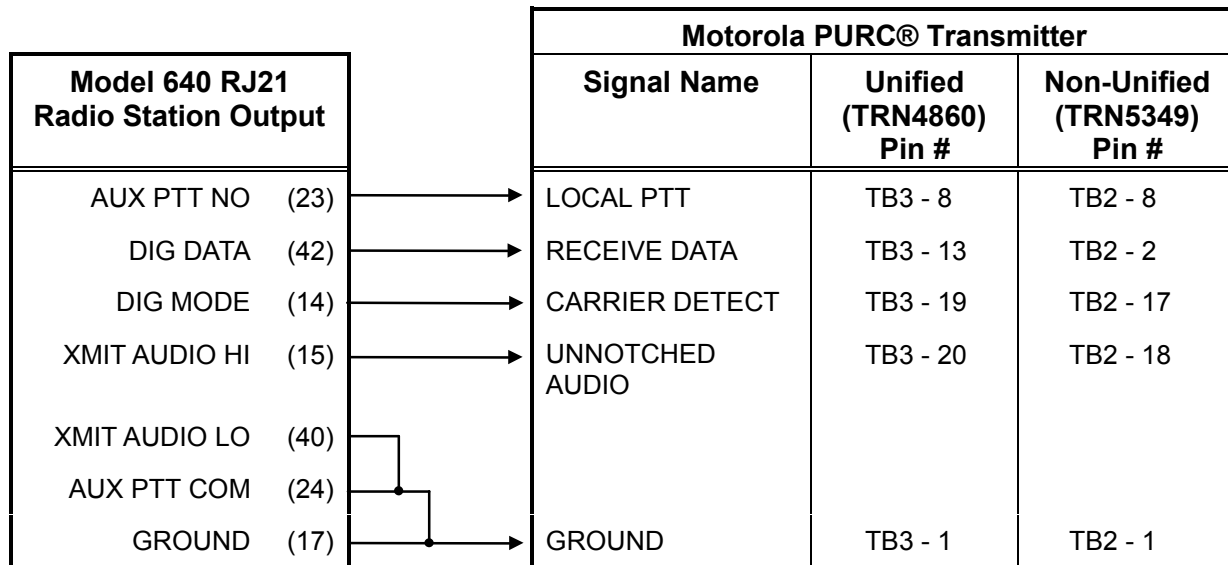

Figure 32. Wiring Configuration for Colocated Motorola PURC® Station
Direct cable hookup between the Model 640 radio station interface and a colocated Motorola Paging Universal Remote Control (PURC®) transmitter is shown in Figure 32. The wiring configuration depends on whether the transmitter has a “unified” or “non-unified” backplane. The Motorola pin numbers refer to the backplane terminal blocks (TB).
Notes on Figure 32: